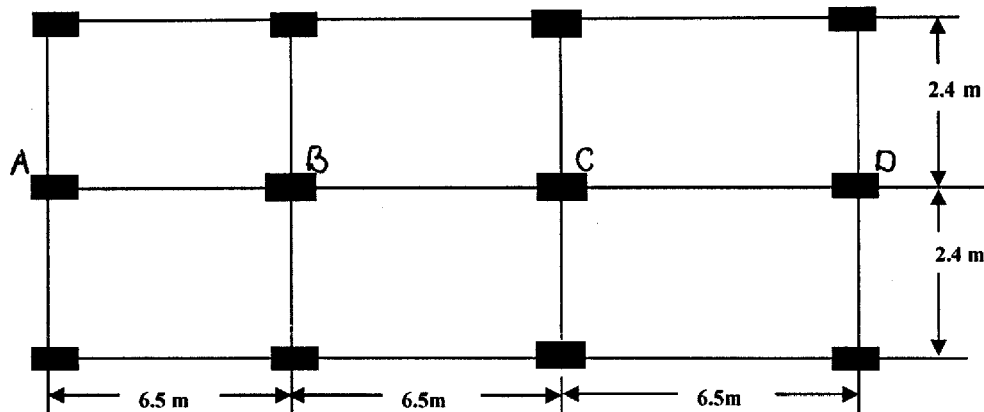

Fig.2
- 2 Design a three span continuous beam ABCD supporting a 120 mm thick slab as shown in figure 2. Consider Live load 4.5 kN/m^2 and Floor finish 1.5 kN/m^2 .